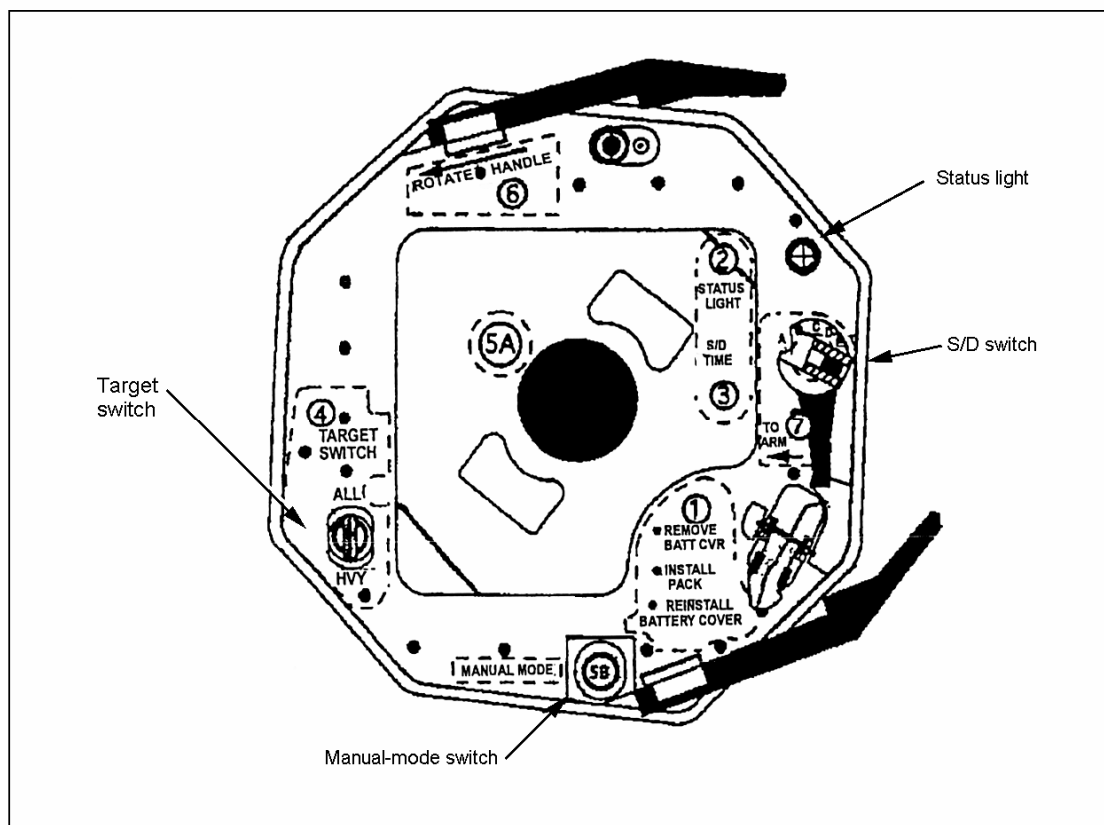

Figure 052-192-1225-2
4. Set the controls on the Hornet to the manual mode (Figure 052-192-1225-2).